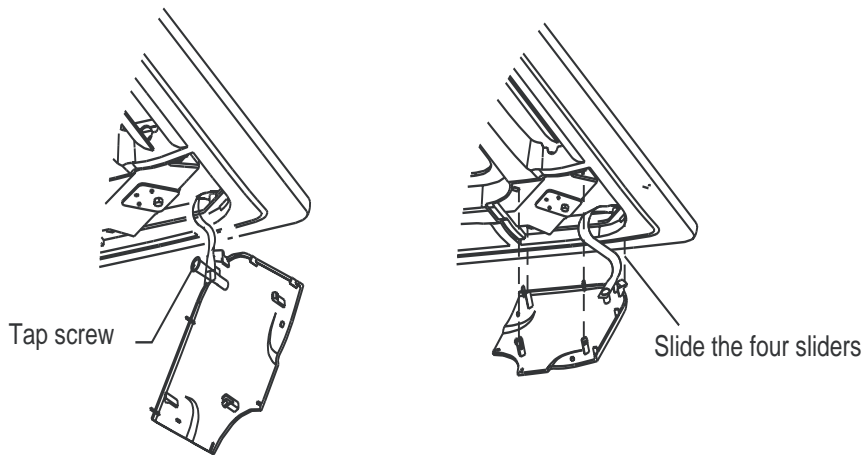

Fig.26
1. Fasten the rope of corner cover onto the screw of the corner cover. (Fig.26)
2. Press the cover into the panel slightly. (Fig.26)